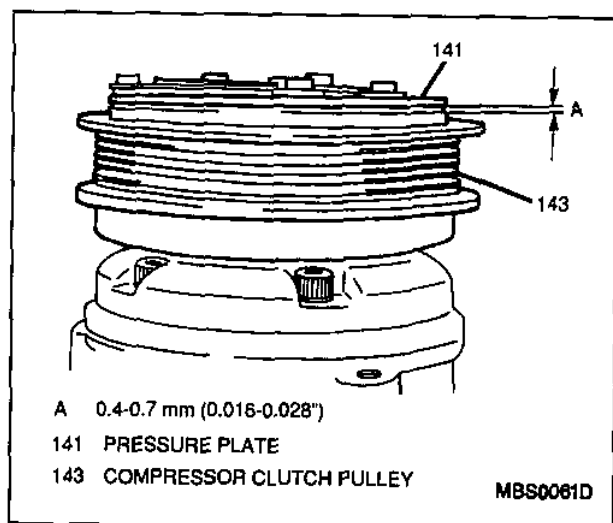

Figure 5—Measuring Pressure Plate Clearance
- Clearance between clutch pulley and pressure plate: 0.35 to 0.65 mm (0.014 to 0.025 inch, Figure 5).